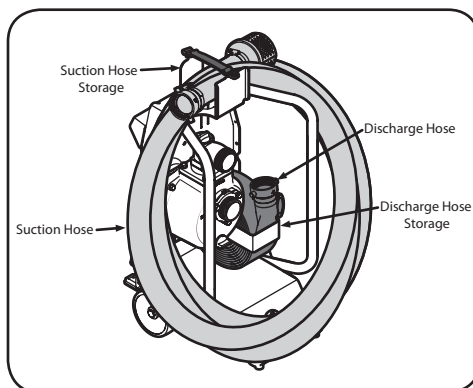

Figure 5-2
1. Make sure all the water is out of the suction hose and store it using the suction hose storage. See Figure 5-2.
2. Make sure all the water is out of the discharge hose by rolling it flat. Then store the discharge hose by using the discharge hose storage. See Figure 5-2.